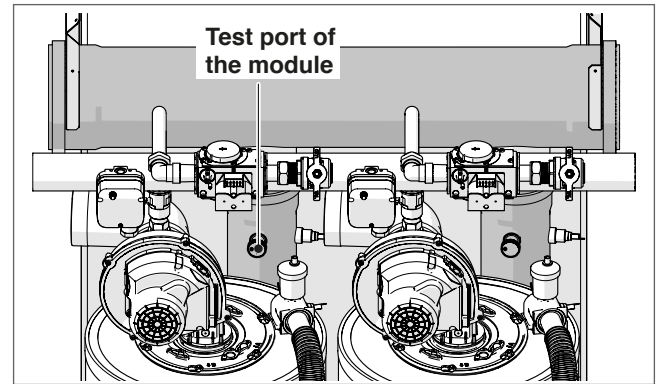

Fig. 28 Test Port for Combustion Analysis (available on each module)
- Insert a combustion analyzer probe into the test port shown in Fig. 28
To adjust the CO₂ value at the maximum power turn the screw “A” (rotate counter-clockwise to increase CO₂) shown in Fig. 28, allen type wrench is necessary for this adjustment.